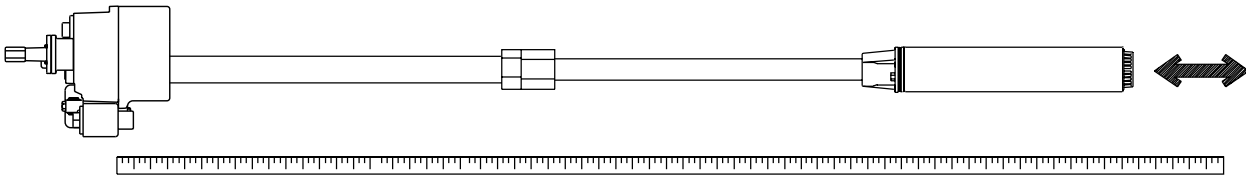

Figure 3.8 Adjusting the pump
- 9: Pull the UMP end until the distance between the bottom of the manifold and the bottom of the UMP is 5 inches (125mm) shorter than the distance measured in step 2 (see figure 3.8). (If floating suction adapter is utilized, pull UMP until the distance between the bottom of the manifold and bottom of floating suction adapter is 14 inches shorter than that measured in step 7.)